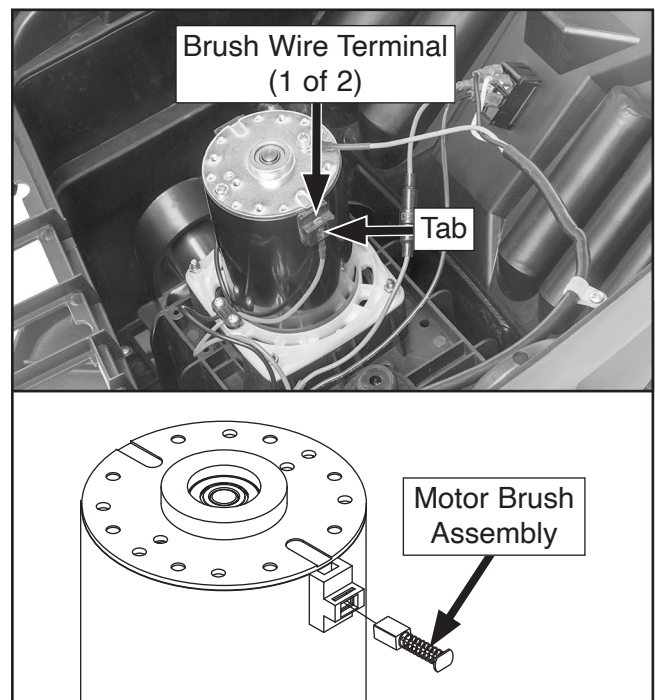

Figure 41. Brush assembly under wire terminal.
4. Gently press tab on wire terminal shown in **Figure 41** so you can remove wire and release brush assembly from motor.